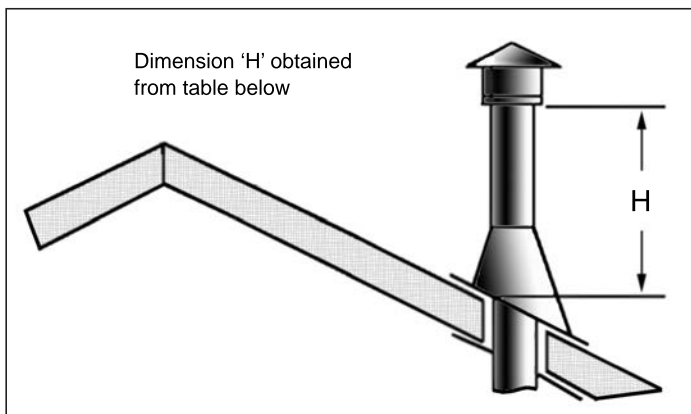

Figure 63: Height of Vertical Termination;
- Step 8.** Continue to add pipe sections until the height of the vent cap meets the minimum code requirements. Refer to Figure 63 and Table 7. Note that for steep roof pitches, the vent height must be increased. In high wind conditions, nearby trees, adjoining roof lines, steep pitched roofs, and other similar factors can result in poor draft, or down drafting. In these cases, increasing the vent height may solve the problem.
Table 7: Minimum 'H' for Figure 63.